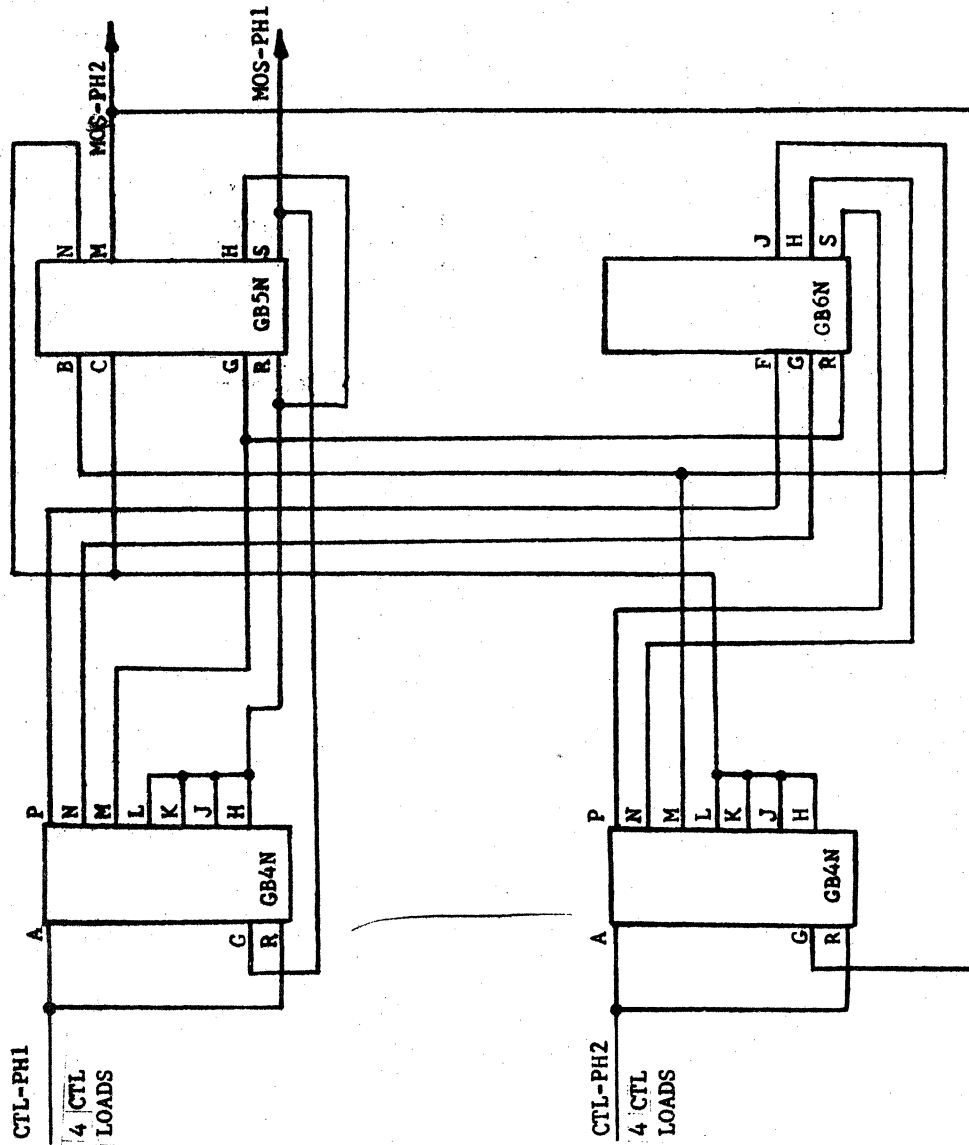

FIG. 2
- 14) Clock driver for Phase 2 and Phase 1 which can drive up to 8 dual MOS registers is described in Figures 2 and 4.